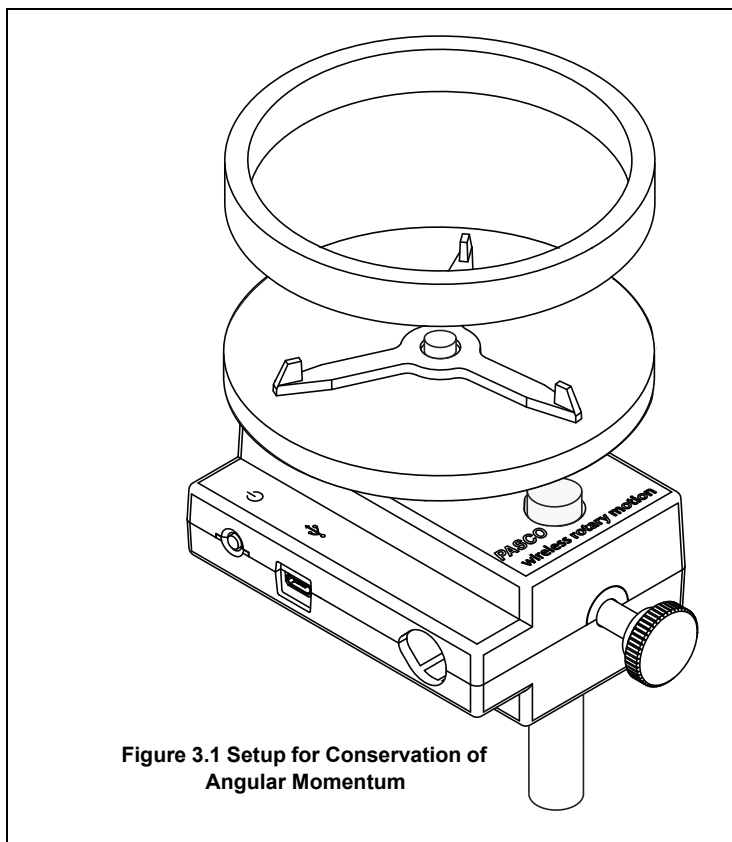

Figure 3.1 Setup for Conservation of Angular Momentum
1. Mount the Wireless Rotary Motion Sensor to a support rod. Remove the thumbscrew from the 3-Step Pulley. Place the disk directly on the square-shaped top of the 3-step Pulley as shown in Figure 3.1.
3. After about 25 data points have been recorded, drop the thin ring onto the spinning disk. See Figure 3.1.